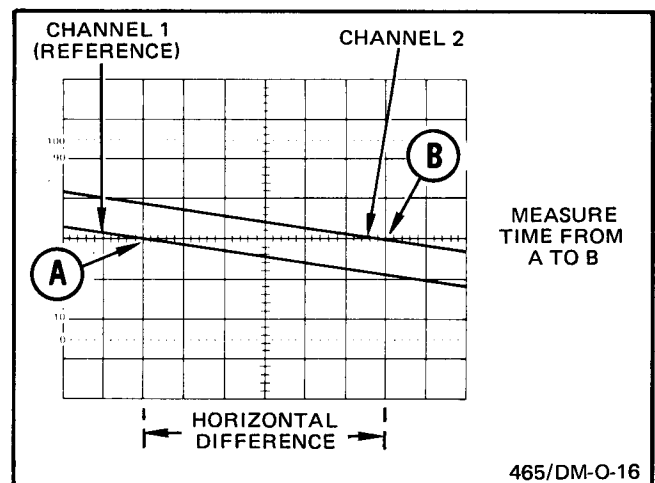

Fig. 2-8. High-resolution phase difference.
4. Slightly readjust the horizontal position control to move the measurement points within the graticule area (see Fig. 2-8).
The horizontal distance measured is 6 divisions (see Fig. 2-8). The magnified sweep rate is $4.5^\circ/\text{division}$.